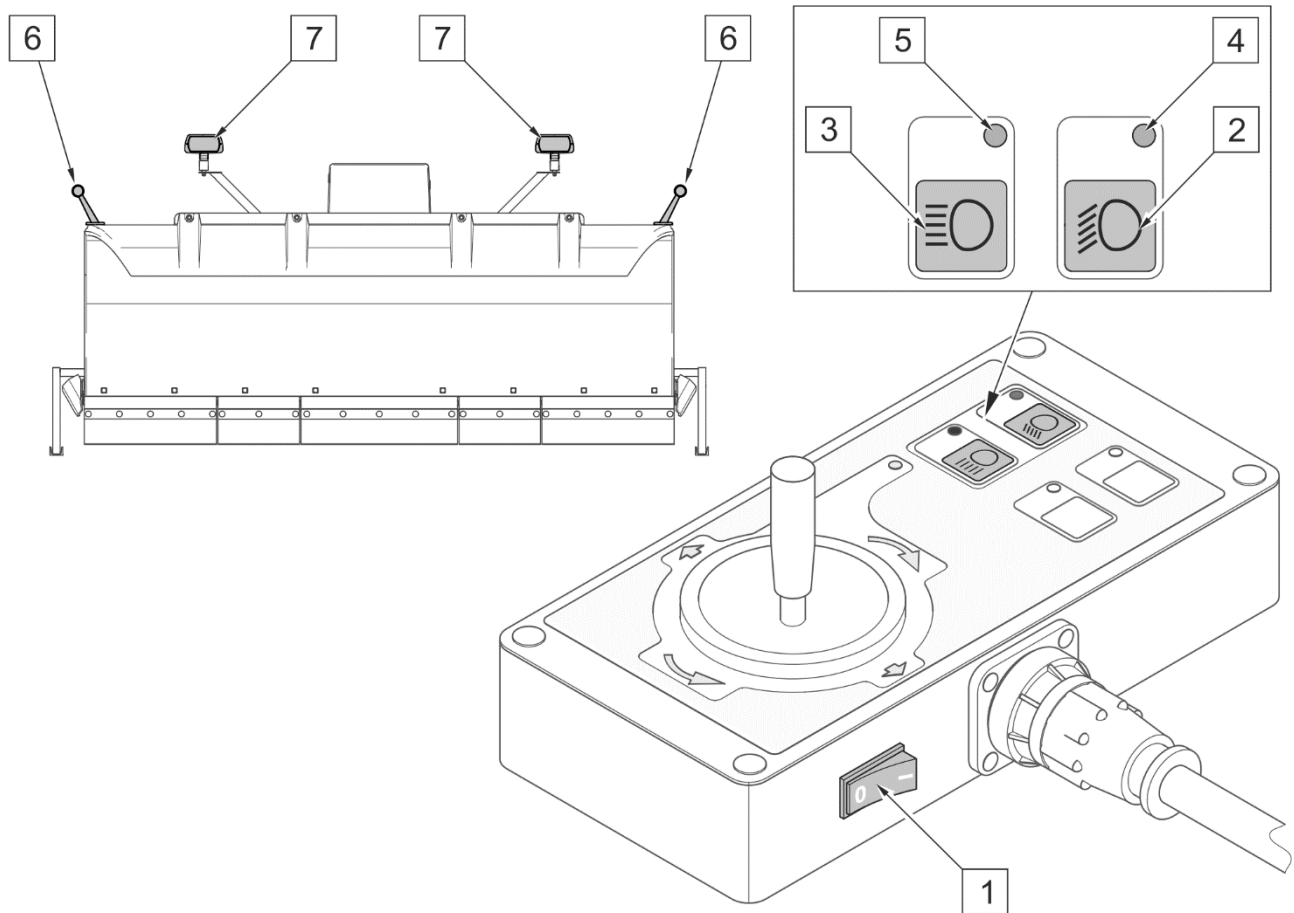

FIGURE 4.13 Switching the lights on
(1) - main switch of control panel and clearance lights; (2) - low beam switch; (3) - high beam switch; (4) - low beam indicator light; (5) - high beam indicator light; (6) - clearance light; (7) - working light
The snowplough is equipped with clearance lights and working lights (FIGURE 4.13). Clearance lights (6) light up when the control panel is switched on by means of main switch (1). The working lights have high beams and low beams. The switch (2) is used for switching on and off the low beams. Activation of the low beams is signalled by green indicator light (4).